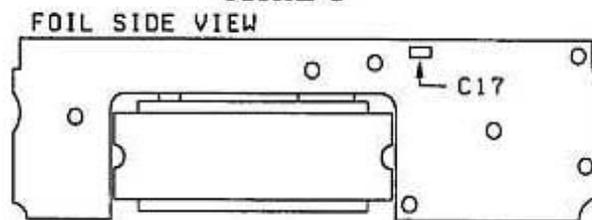

FIGURE 3
6. Remove the two black shades from the Balance and Sub-Squelch controls. Figure 3.
7. Remove the three brass colored screws from Control board B/3. Figure 3.
32. Replace C107 with the 220  $\mu$ F electrolytic. C107 is located between the Main and Sub rotary endoders. Figure 3.
11. Replace C17. Figure 3.